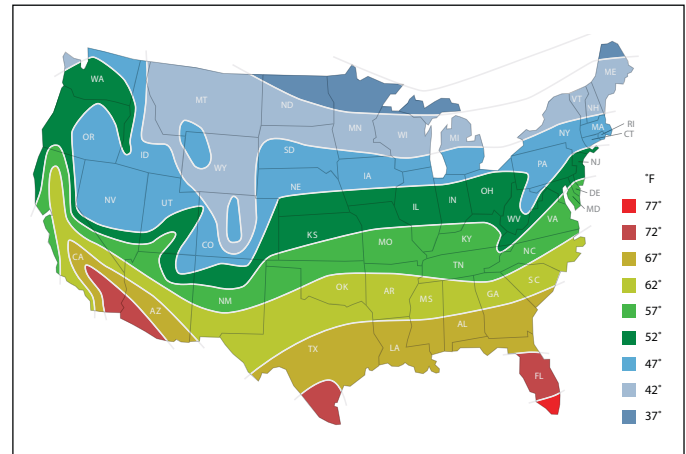

Figure 1: Average ground water temperatures
- Size the pump according to the pressure drop curve of your Infiniti® K model (fig. 1 below) and the loop pressure drop tables.